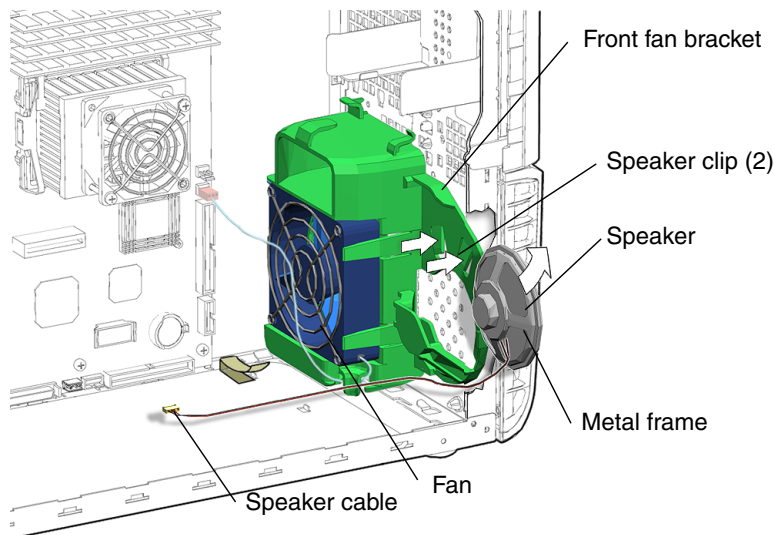

FIGURE 13-35 Removing the Speaker
4. Release the speaker (FIGURE 13-35).